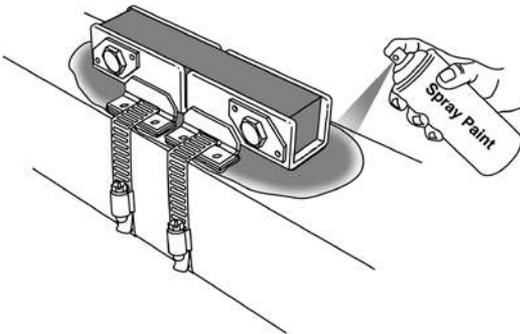

**Fig. 4: Welded axle and bracket**
2. Fillet weld a full bead on the front and back edges of each bracket piece, as per ANSI/AWS 2.4-79, AWS A5.4, AWS A5.9 and AWS A5.22 standards (Fig. 4). Do NOT weld the sides of the bracket, only the edges indicated on the next page. Air-Weigh recommends that you use equipment similar to Miller Shopmaster 300 AC/DC; AMP/VOLT setting of 22; wire speed of 3.5; and a welding argon gas mixture of 75/25. MIG welding should use 309 stainless wire. MIG welding will use the same settings as the Miller Shopmaster noted above.